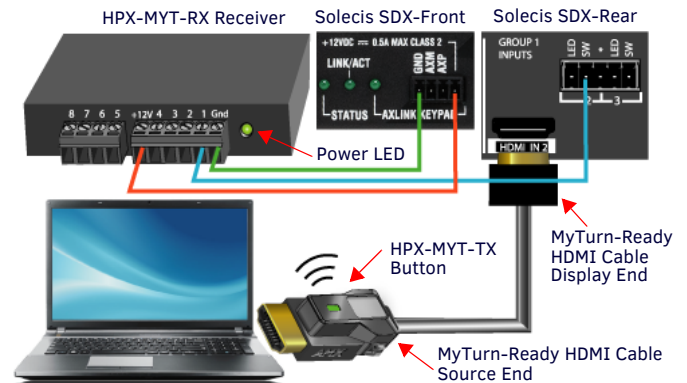
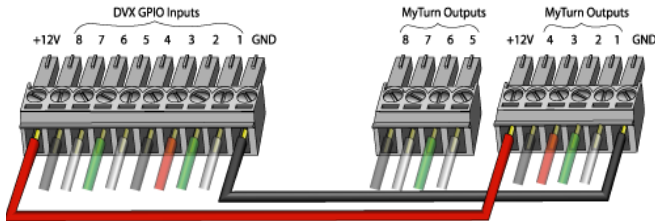

FIG. 3 MYTURN SOURCE SELECTOR SW CONNECTION (1 CONNECTION SHOWN)
FIG. 5 PHOENIX CONNECTOR WIRING (DVX/NI-CONTROLLER GPIO TO MYTURN RECEIVER)
The MyTurn Source Selector Receiver connects to the AMX Solecis front AXLINK port for power and ground as outlined in FIG 3. Output ports (1 through 8) are wired to the corresponding Solecis rear "SW" input that has a MyTurn Source Selector Button equipped cable connected to it. This solution can be implemented without NetLink programming since the SW port is directly connected to the Receiver.
1. Remove the Phoenix connector from the back of the receiver and wire the outputs to the Solecis, DVX, or NX/NI Master Controller using the screw down terminals. Ensure Power and Ground are connected as shown (FIG. 5). Use the AXLINK ports for Power and Ground if connecting to a Solecis as described in FIG. 3.